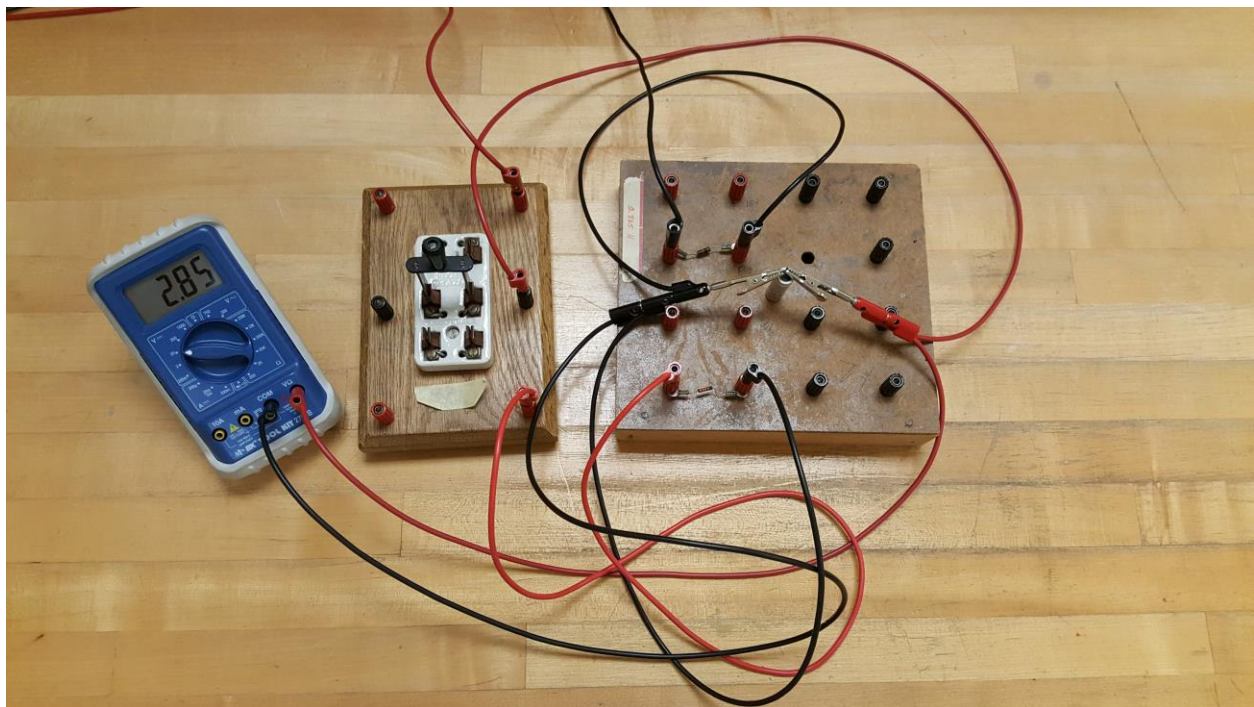

Figure 1
8) Plug one wire into the “COM” port on the multimeter and another into the “V---” port. Turn the dial on the meter so that it points to “20” in the section labeled as “V---” on the outer edge of the meter. Then, connect the “COM” wire to the capacitor lead where the other resistors are connected, and connect the other lead from the meter to the other capacitor lead. This meter will act as the voltmeter during the experiment, and measures the potential difference across the capacitor at any moment. Your completed setup should look similar to the Figure 1 below. If you are unsure, check with your TA!